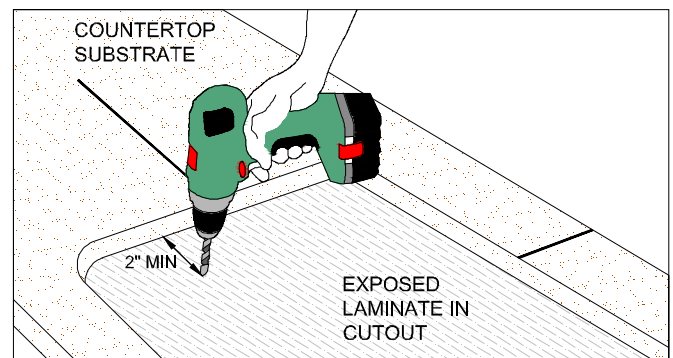

Figure 20D
- Drill a $\frac{3}{8}$ " or larger pilot hole approximately 2" from inside edge of sink cutout. (FIG. 20D)